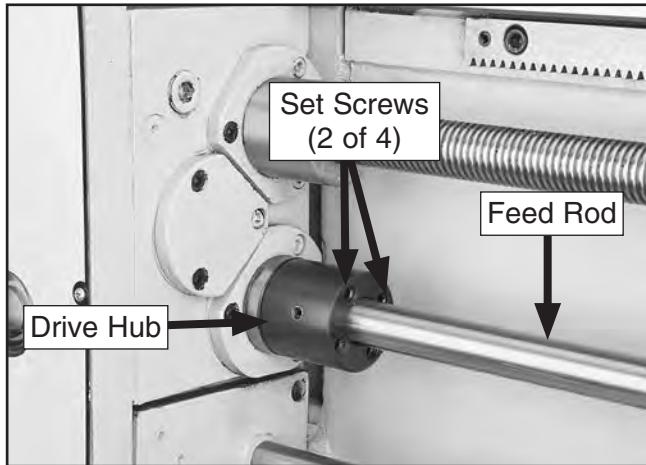

Figure 128. Feed rod clutch.
This lathe is equipped with a feed rod clutch (see **Figure 128**) that connects the feed drive hub with the feed rod through a set of spring-loaded ball bearings. This clutch helps protect the apron feed system from overload. The feed rod clutch comes set from the factory, and unless there is a problem, it needs no adjustment.
- If clutch slips during normal work loads, increase clutch spring pressure by tightening each clutch drive set screw (see **Figure 128**) one full turn, then recheck for slippage.